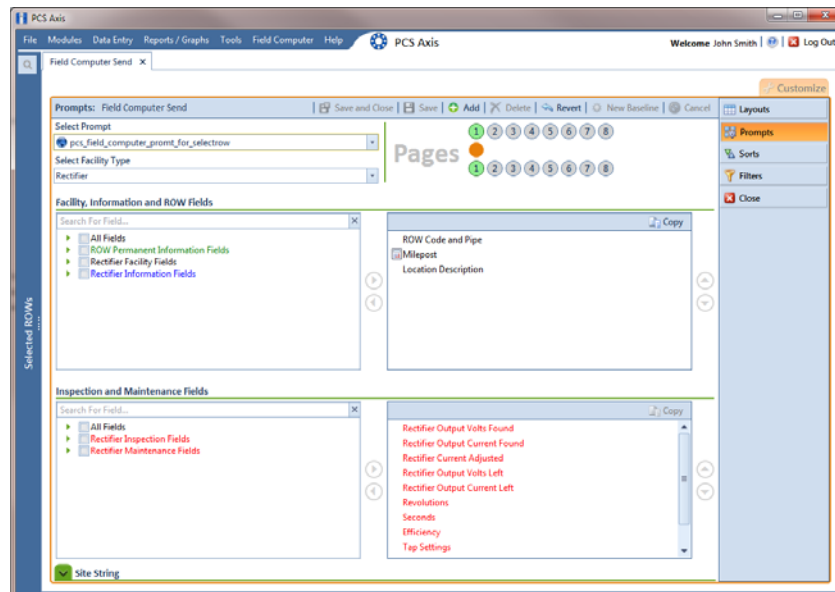

Figure 13-28. Prompts
- 3 Click the **Customize** tab , then the **Prompts** button  to open the *Prompts* page (Figure 13-28).